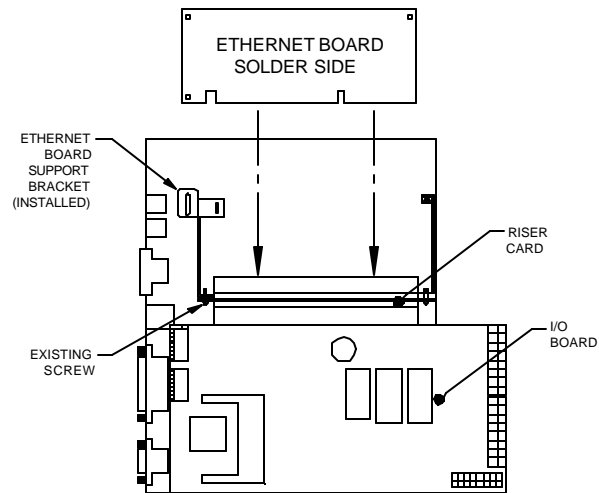

FIGURE 3 - BRACKET/BOARD INSTALLATION
- Place the new bracket (MW0388-01) in position as shown in Figure 3.
- Insert the Ethernet card into the riser card slot (solder side up) until it is firmly in place, as shown in Figure 3.